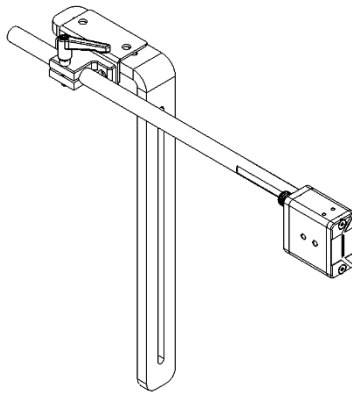

Figure 8
- Assemble the print head, bracket, rod, and rod mount on the L-shape mount as shown in Figure 8.